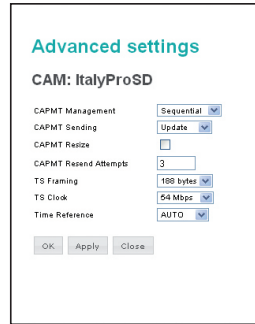

Fig. 7
- ADVANCED SETTINGS: change the advanced settings in the CAM module (see fig. 7)
The figure 7 shows the window which opens clicking the "ADVANCED SETTINGS" key: this page enables changing the advanced CAM module functions. The items, CAPMT Management and CAPMT Sending, enable changing the decrypt management for the CAM, choosing from the options in the dropdown menu. If the third item CAPMT Resize is flagged, the CAM is set to decrypt just the audio and video of a program (in this case, the number of decrypted programs could be higher). If it is not flagged everything is decrypted: audio, video, ttx, subtitles, MHP, etc.